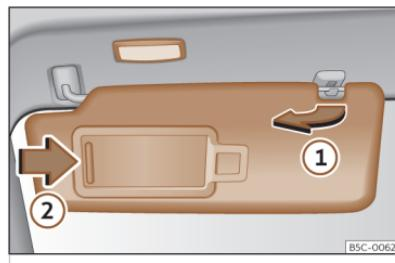

Fig. 111 Sun visor
- The sun visor can be pulled out of its mounting and turned towards the door >>> Fig. 111 (1).